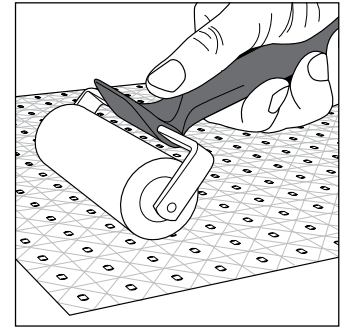

Figure 18
- **Pro tip:** use the Auragami Installation Roller (sold separately: AG1-RLR-EVO), to assist with mounting (figure 18).